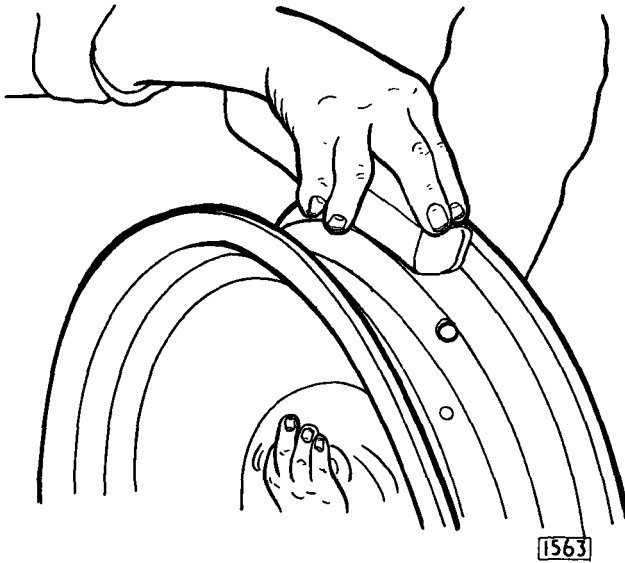

Fig. 15. Removing irregularities from rim.
3. Clean the rim bead seats and flanges thoroughly. Use emery cloth, steel wool, a wire brush or a file, depending on the amount of dirt, rust, rubber and surface irregularities to be removed. (Fig. 15.) Smooth paint need not be removed.